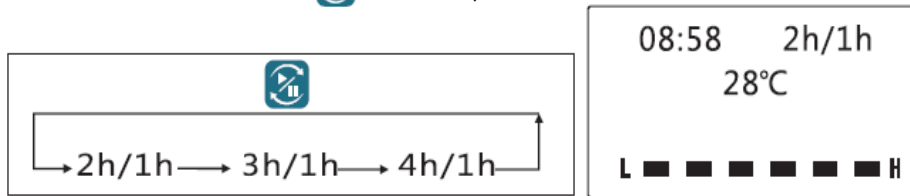

Figure 6-7
(5) When set Timer-2, Display cycle time above the display screen "2h/1h" as figure 6-7. And for 3 kinds of periodic time choice. Press "  " button, select switch.